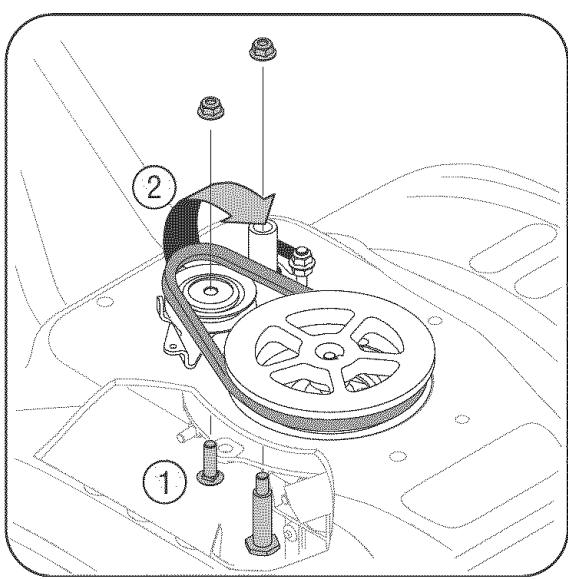

Figure 10 - Replacing the belt.
- Remove the shoulder screw, carriage screw, and nuts from the idler bracket assembly, Step 1 Figure 10.
- Unloop the belt from the pulleys, Step 2 Figure 10.